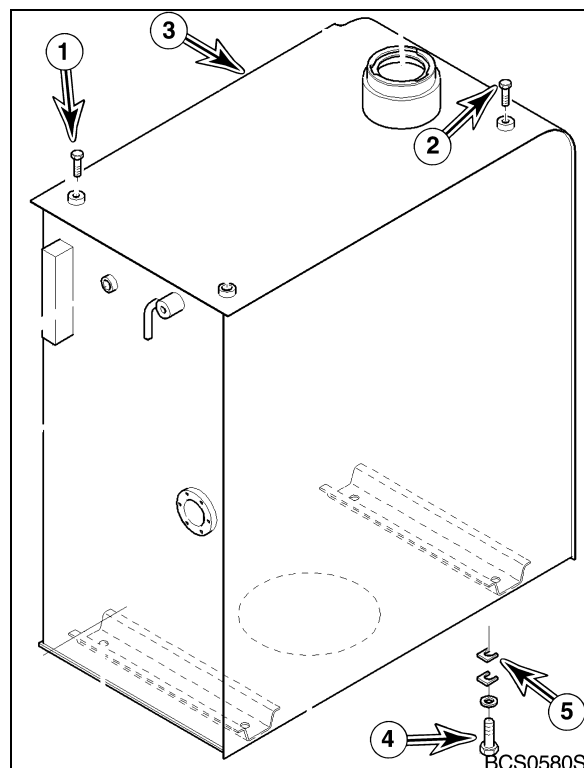

Figure 11
21. Install two 12 mm eye bolts in threaded holes at top surface of tank (1 and 2, Figure 11). Using a suitable lifting device, sling eye bolts.
22. Remove four bolts and washers (4, Figure 11) holding tank (3) to frame. Lift tank 25 mm (1") and make sure it is balanced. Make sure that there are no other electrical wires or hoses connected to tank. Completely remove tank after inspection.
23. Remove shims (5, Figure 11).